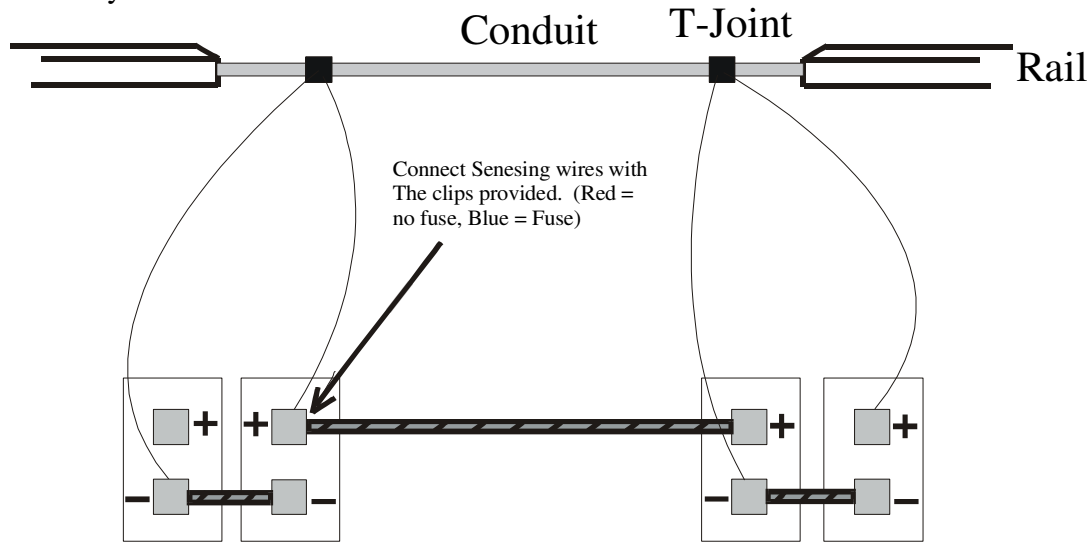

Fig. 3
3) Run the plastic wiring duct along the battery rack rail with the outlets positioned at each battery cell pair, see Fig. 3. You may substitute the wiring duct with plastic conduit if necessary.